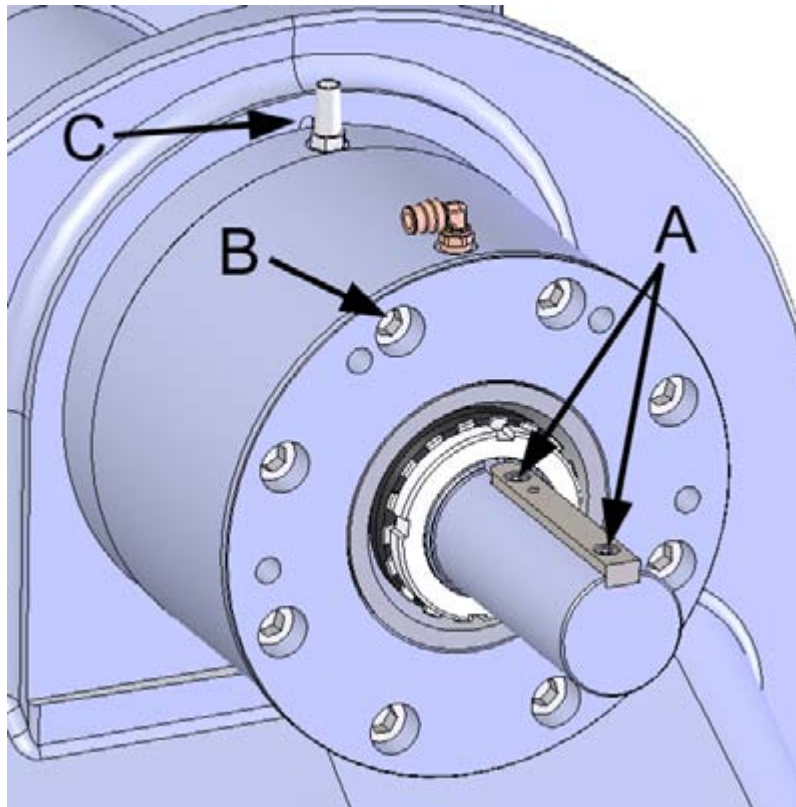

Figure 3. Removing the bearing housing
4. Remove the key from the shaft by opening the screws holding it in place (2 pcs, figure 3, point A).
5. Open the bearing housing screws (6 pcs, figure 3, point B).
Make use of the two grooves on the frame of the jet. You can use a screwdriver, for example, to loosen the bearing housing from the frame of the jet (figure 3, point C, 2 pcs).